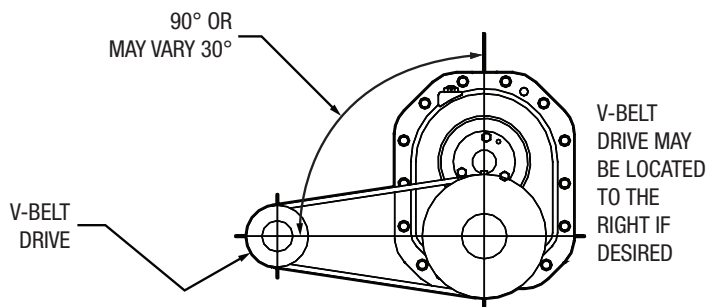

Figure 3 - Angle of V-Drive
- If not using a Torque-Arm II motor mount, install motor and v-belt drive so belt will approximately be at right angles to the centerline between driven and input shaft (see Figure 3). This will permit tightening the v-belt with the torque-arm.